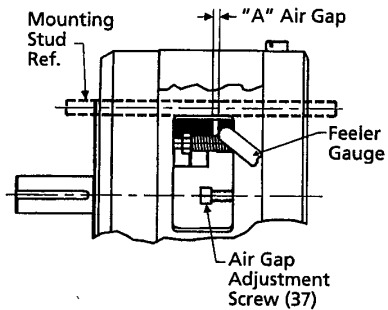

Figure 7
(Refer to Figures 7, 8 and 12.)
2. Measure air gap "A" using 3/8" to 1/2" wide feeler gauge as shown in Figure 7.